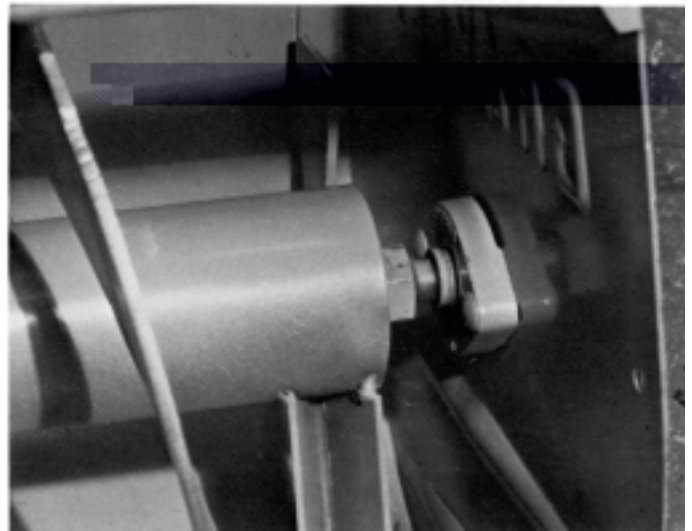

Figure 33
**Reel Clutch:** the Reel Clutch is properly adjusted at the factory. If it should become necessary to tighten the Friction Clutch in the Reels, turn off the Tractor Engine, disengage the Power Take Off, and after all movement has stopped, block the rotation of the Fan. Now tighten the large Nut on the right end of the Reel Shaft (as viewed from the front of the Snowblower). See Figure 33.